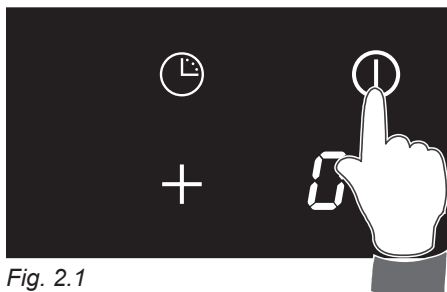

Fig. 2.1
Touch the key ① and keep it pressed until the touch control system is lit. (fig. 2.1).